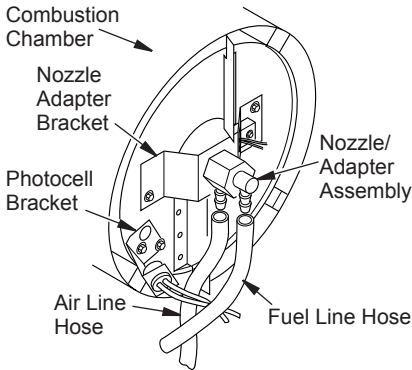
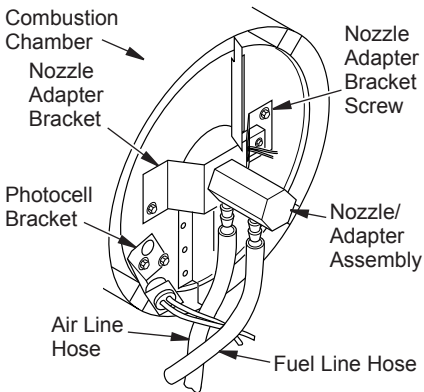
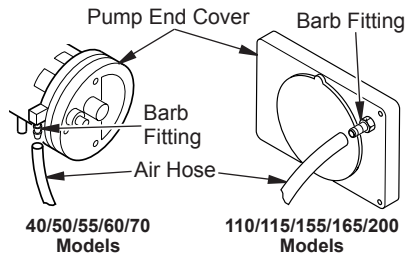

Figure 23 - Removing Air and Fuel Line Hoses (40/50/55/60/70 Models Only)
Figure 27 - Removing Air and Fuel Line Hoses (200 Model Only)
Figure 29 - Air Hose to Barb Fitting
9. Carefully guide ignitor into opening in nozzle adapter bracket. Do not strike ignitor element. Attach ignitor to nozzle adapter bracket with screw using a 1/4" nut driver for models using ignitor HA1000 or 1/16" nut driver for models using 102548-08 ignitor (see Figure 23). Torque 0.90 to 1.69 N-m (8 to 15 in-lbs) Do not over torque.
14. Replace photocell in photocell bracket. Route wires as shown in either (see Figures 23 or 24 page 12 or Figure 27, page 13).
3. Remove fuel and air line hoses from nozzle assembly (see Figure 23 or 24).
3. Remove two nozzle adapter bracket screws (see Figure 27).
4. Inspect fuel and air line hoses for cracks and/or holes. If fuel line hose is damaged, disconnect from nozzle adapter (see Figure 23 or 24, page 12, or Figure 27) and from fuel filter (see *Fuel Filter*, page 10). If air line hose is damaged, disconnect from nozzle adapter (see Figure 23 or 24, page 12, or Figure 27) and from barb fitting on pump end cover (see Figure 29).
5. Install new air and/or fuel line. Attach one end of air line hose to barb fitting on pump end cover (see Figure 29) and the other end to nozzle adapter (see Figure 23 or 24, page 12, or Figure 27). Attach one end of fuel line hose to fuel filter (see *Fuel Filter*, page 10) and the other end to nozzle adapter (see Figure 23 or 24, page 12, or Figure 27).
Note: Route hoses as shown in see Figure 23 or 24, page 12, or Figure 27, according to model. Hoses are not to touch photocell bracket.